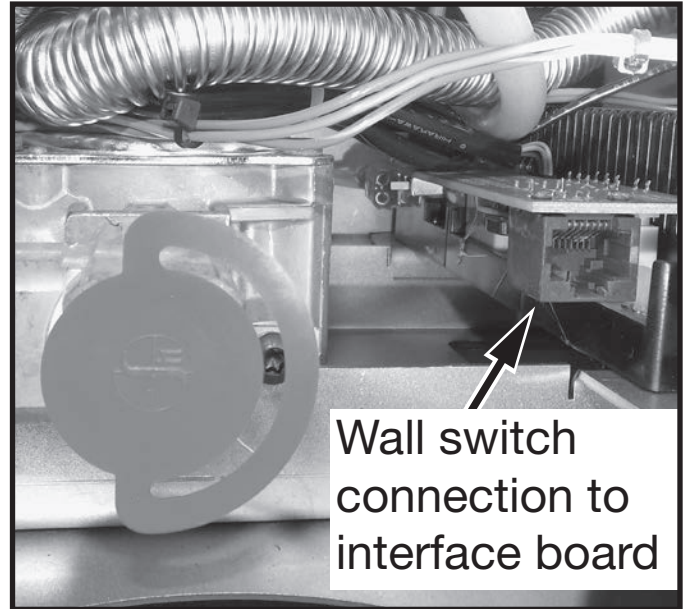
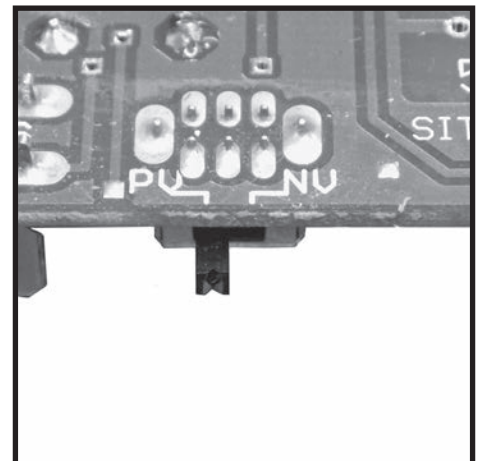

Figure 26: Interface board connection for wall switch.
Figure 32: Power vent switch.
4. Connect the cable for the wall switch / Home automation to the connector just forward of the power vent switch (Figure 26).
The NV / PV (Natural Vent / Power Vent) switch (Figure 32) on the interface board (Figure 26) is set according to which type of evacuating vent system is present. If using a power vent, “PV” should be selected. Follow the instructions provided with the power vent kit for proper installation.